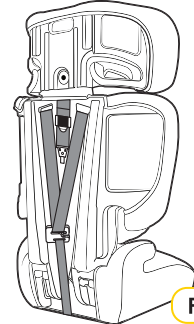

Figure 1
Step 1: From the rear of the restraint, remove each shoulder harness through the gates in the "G" connecting plate (see Figures 1, 2, 3 & 4).